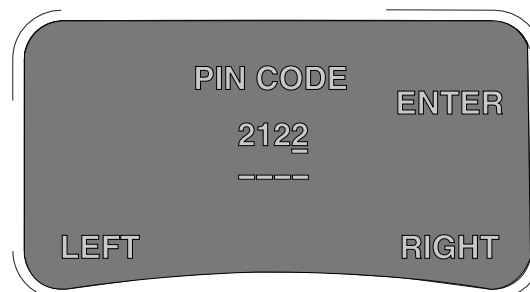

FIG. 12
3. Use the up and down keypad buttons to select the desired number. Continue this process until the PIN code number is completed. See FIG. 12.